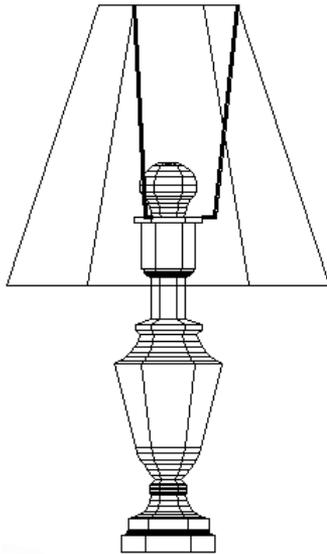

Figure 24-28: The completed lamp.
2. Save the file as ab24-08.dwg in your AutoCAD Bible folder. You see the same lamp used in the previous Step-by-Step exercise, but it has now been completed, as shown in Figure 24-28.